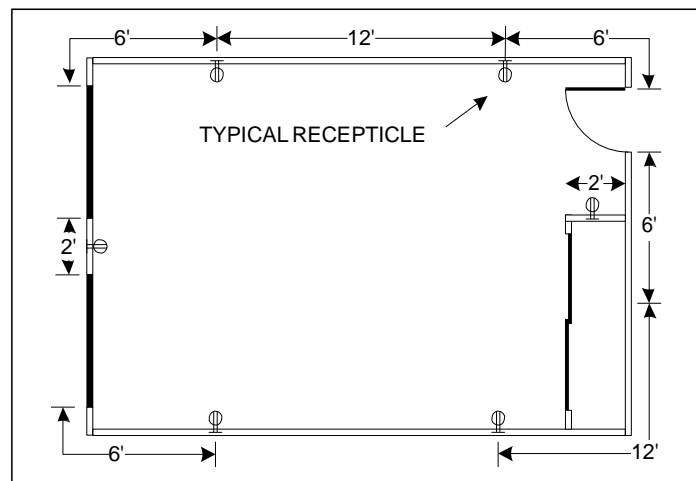

FIGURE 15: Typical Outlet Distribution
- Receptacles shall be placed so that no location along the floor/wall line is more than 6’-0” from a receptacle. FIGURE 15